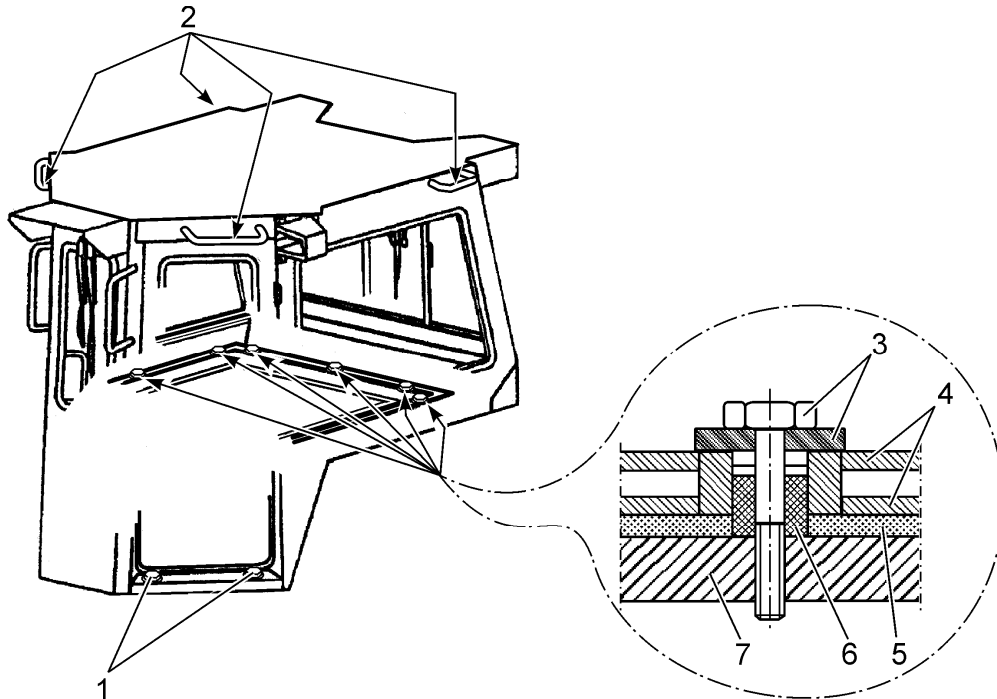

Fig. 13.3. Cab Mounting Points to Pod Assy
11. Attach the hoist to the cab lifting points (2, Fig. 13.3).
12. Unscrew front bolts (1, Fig. 13.3) at both sides of the cab and rear bolts (3) securing cab to the platform. Lift and remove the cab. Position cab assy in prepared stand, protect cab seal gasket (5) against damage.
1. Attach the hoist to the cab lifting points (2, Fig. 13.3), position the cab on the platform. Install bolts (1) (on both sides of the cab) and hand tighten. Turn back the threaded sleeve (6) at mounting points (3), so there is no contact with the platform surface. Torque bolts (1) to 80 [Nm] at both sides of the cab.
2. Screw in threaded sleeve (6) until it comes to contact with the pod surface. Install the bolts with washers (3) and torque to 80 [Nm]. Check the seal gasket (5) between the cab (4) and pod (7) for defects in spots where dust could penetrate inside the cab.